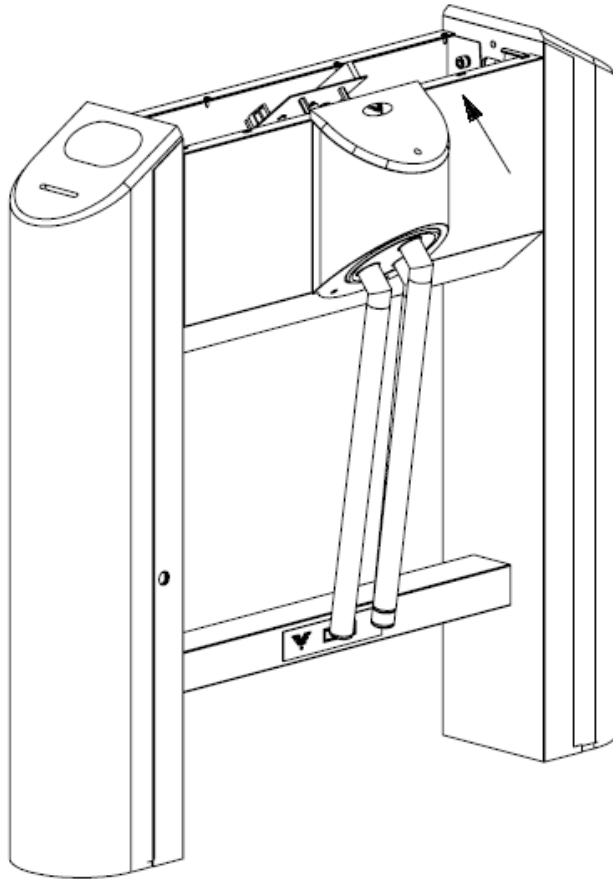

Fig. 5
- slide the turnstile cover in the direction indicated by Fig. 5, and lift it up.